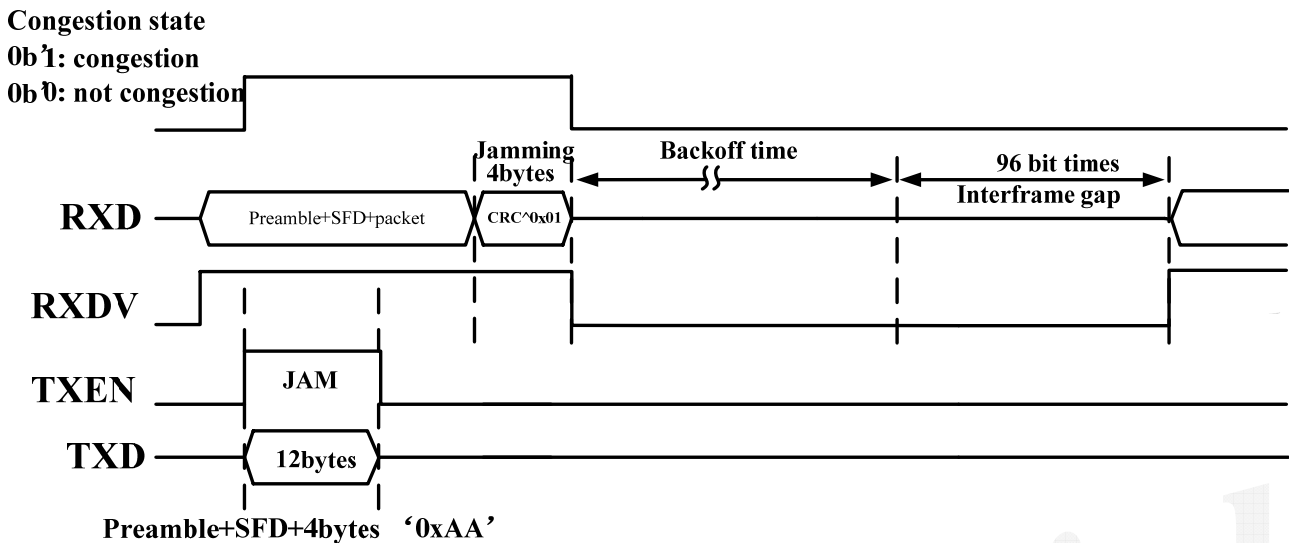

Figure 6. Collision-Based Backpressure Signal Timing
- The link partner waits for a random back-off time then re-sends the packet. The timing is shown in Figure 6.